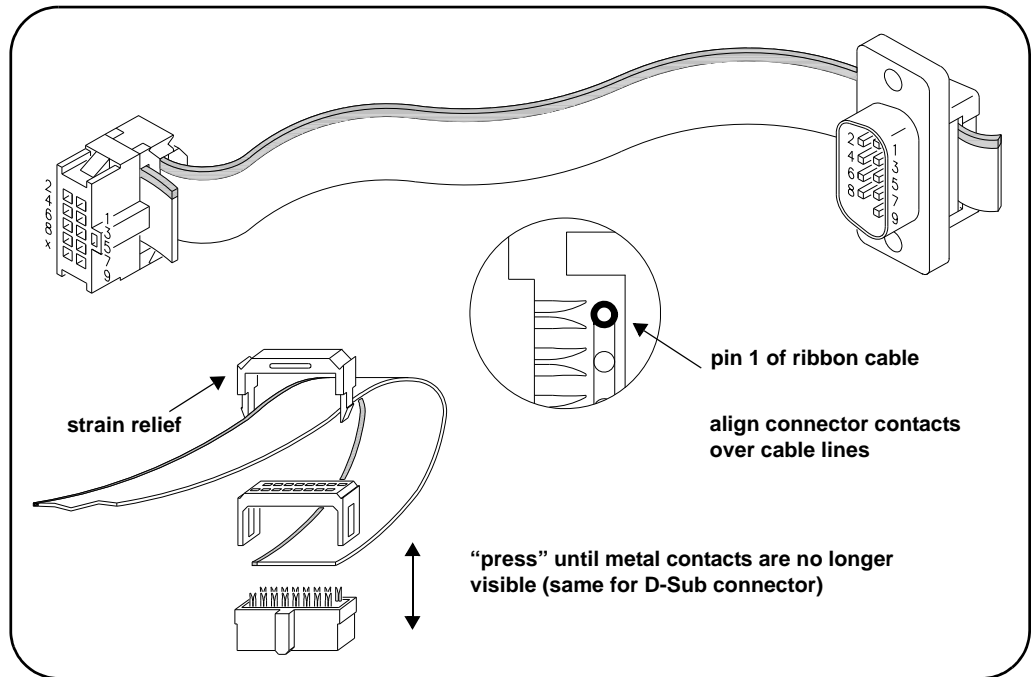

Figure 1-2. Y1157A Connector Orientation and Ribbon Cable Routing.
2. Position the D-Sub connector and the ribbon cable connector as shown in Figure 1-2. Route the cable **through** the connectors, noting the location of cable pin 1. By convention, pin 1 is indicated in red (the dark line in the drawing).
4. Align the metal contacts of the ribbon connector over cable pin 1 (Figure 1-2) and the other pins, press the ribbon cable connector onto the cable using a vise or clamp to press the contacts **evenly** through the cable insulation. Continue to press the connector until the metal contacts are no longer visible.
5. Fasten the strain relief clamp over the cable and into the ribbon cable connector as shown in Figure 1-2. Remove any excess cable after the clamp is in place.